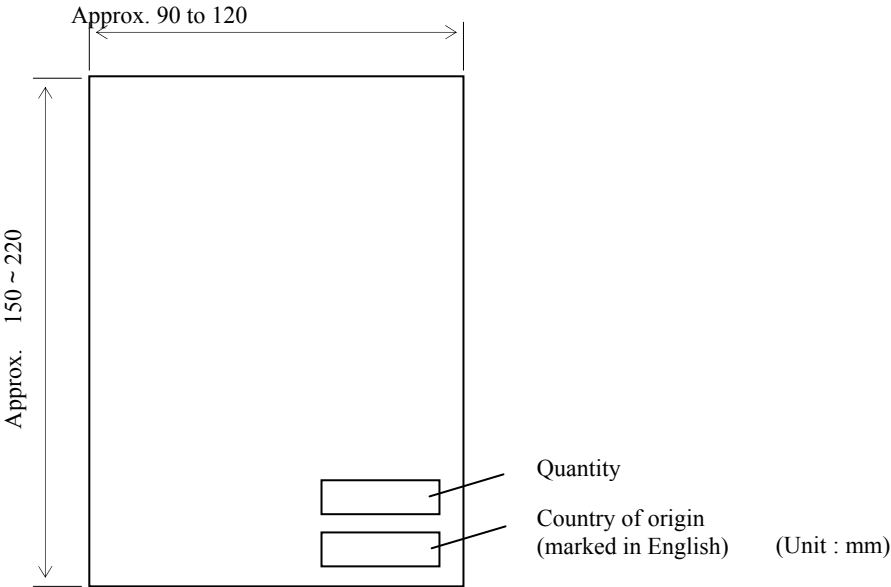
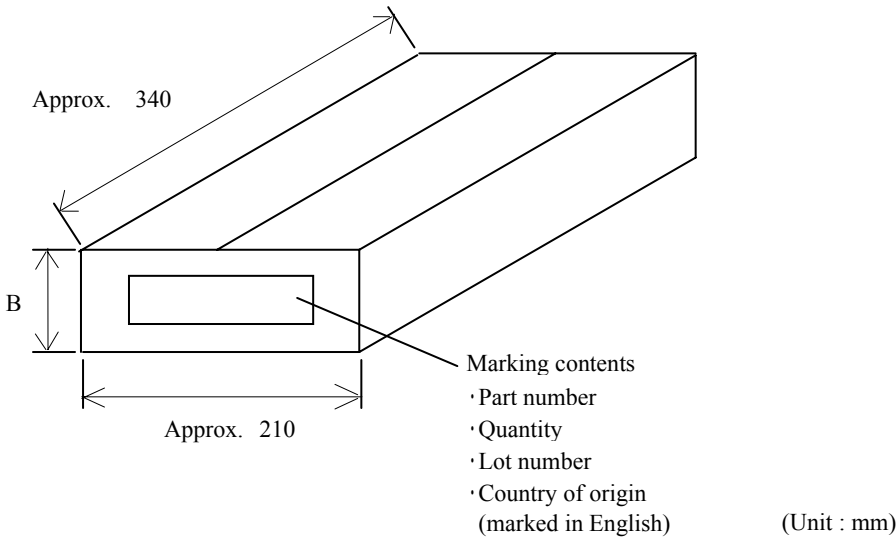

Fig 2.1 Bag
Fig 2.2 Carton box
- 7.3 Dimensions of packing materials and marking on the packing materials shall be shown Fig. 2.1 and Fig. 2.2